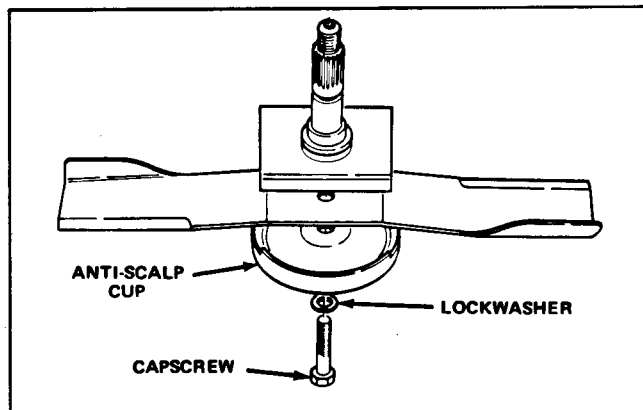

Figure 20
2. Grasp the end of the blade using a rag or thickly padded glove. Remove the blade bolt, lock washer, anti-scalp cup, and blade from the spindle shaft (Fig. 20).